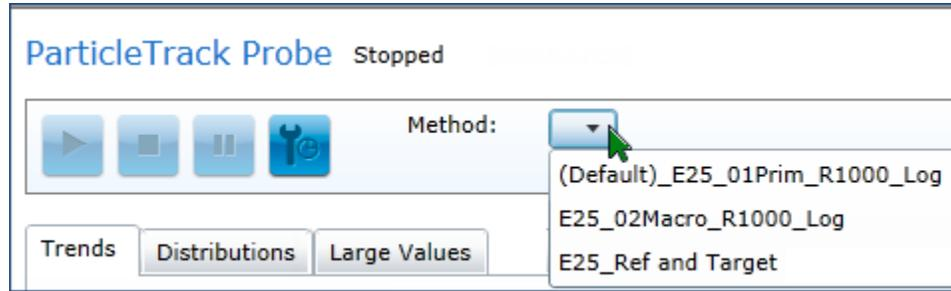

Figure 4-3 Method selection drop-down list
1. On the main instrument page, click the Method drop-down button (Figure 4-3).